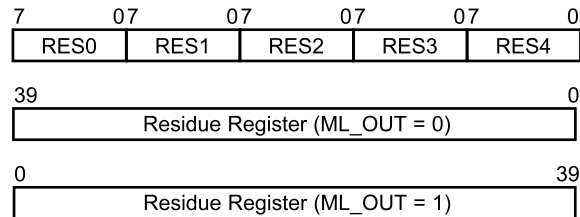

Figure 5-19 Mapping of the Residue Register
controlled by the ML_OUT bit of the LFSRCFG3 register, as shown in Figure 5-19.
- *ML_OUT*—set to shift data out of residue register LSB, and into MSB, clear to shift data out of residue register MSB, and into LSB. See Figure 5-19 for effect on RESx mapping.
The five RESx registers hold the 40-bit residue used in the LFSR operation. The ML_OUT bit controls the mapping of the residue register to the RESx registers, as shown in Figure 5-19. The residue register can be initialized to all ones by setting the SET_RES bit in the LFSRCFG1 register.